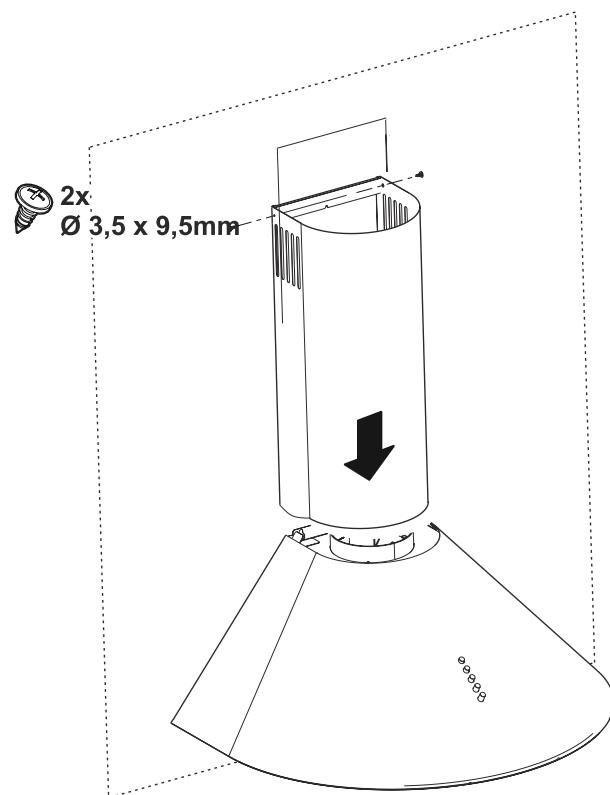

Fig. 13
- By pulling the upper flue upwards and screw to the flue connection plate through the left and the right sides.(Fig. 13).